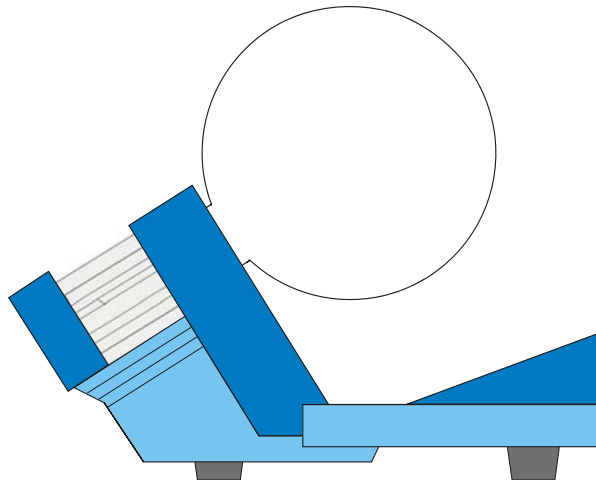

Fig. 1 Setting up a tube
- Press tube gently into the stock and push until the pins are fully inserted. Take note of the unique positions of the guide pin (refer to Fig. 1).